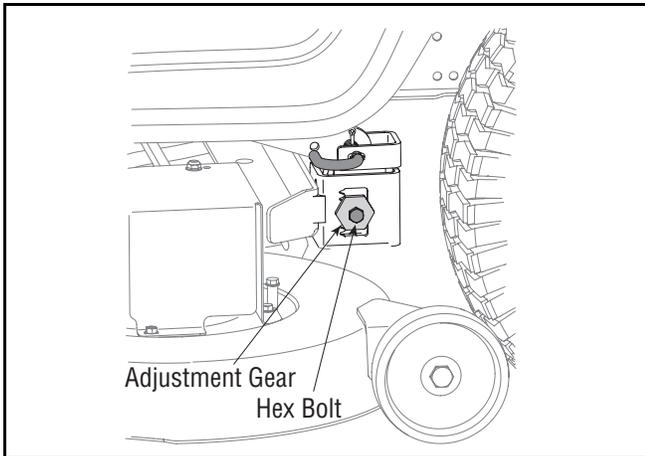

Figure 14
6. Locate the two lock nuts on the front side of the stabilizer bracket. See Figure 14. Tighten the lock nuts to raise the front of the deck; loosen the locknuts to lower the front of the deck.
3. Loosen, but do NOT remove, the hex bolt on the left deck hanger bracket. See Figure 14.
4. Balance the deck by using a wrench to turn the adjustment gear (See Figure 14) up or down.